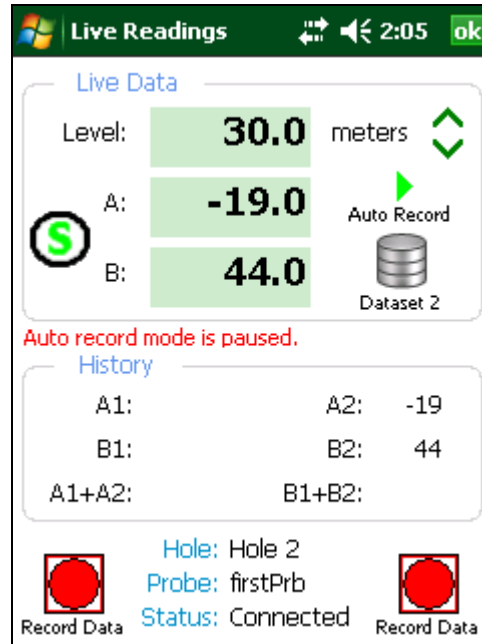

Figure 48 - Auto record paused, Dataset 2 selected
6. Tap the "Dataset 1" icon and observe that the red status text message will change to "Auto record mode is paused" and the "Pause" icon will change to the "Play" icon while "Dataset 1" becomes "Dataset 2" (see Figure 48).